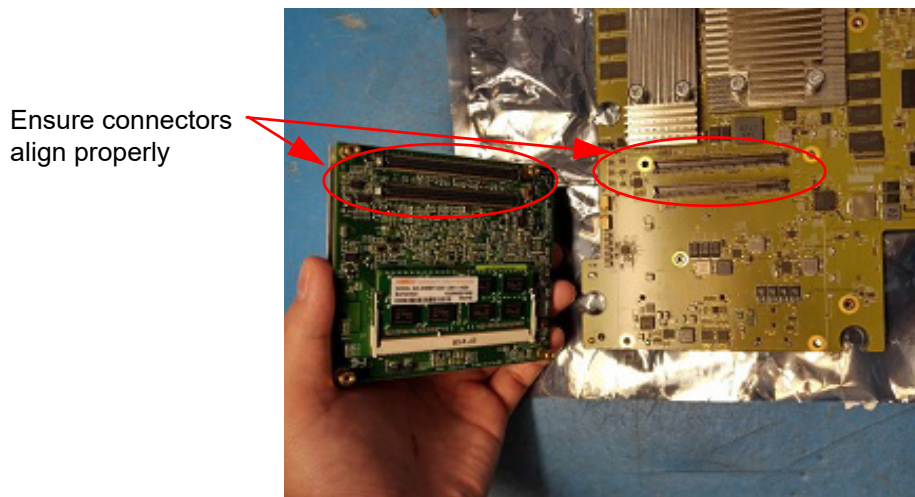

Figure 6.23 Install ComE PCBA
- 1 Place ComE PCBA onto Main PCBA. Make sure connectors are aligned and press into place per Figure 6.23 on page 63.